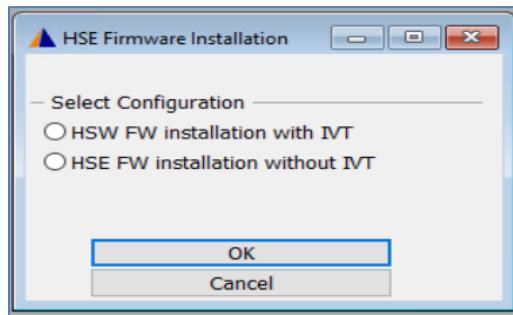

Figure 28. Firmware installation options
- Select Full HSE FW installation without IVT as shown in Figure 28 and click ok.